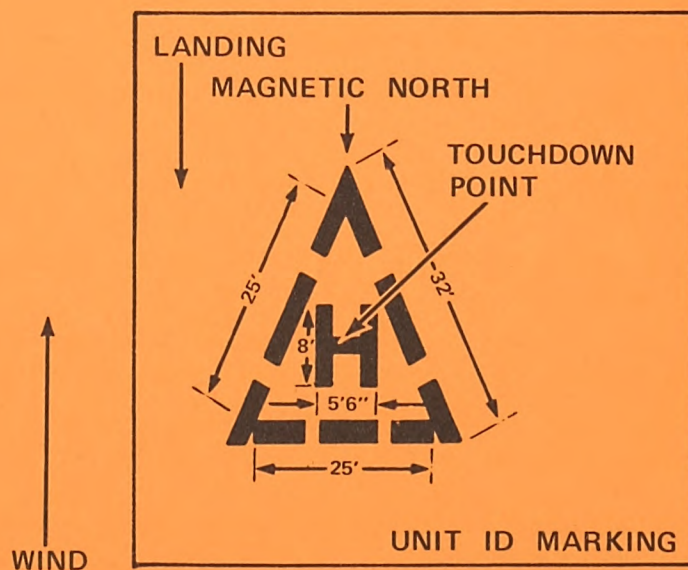

Figure 1.
c. The landing site should be outlined with material, such as engineer tape or rocks, of a color contrasting with the background. Where the tactical situation permits, a landing site should be marked with a letter "H", using identification panels or other appropriate marking material (figure 1).